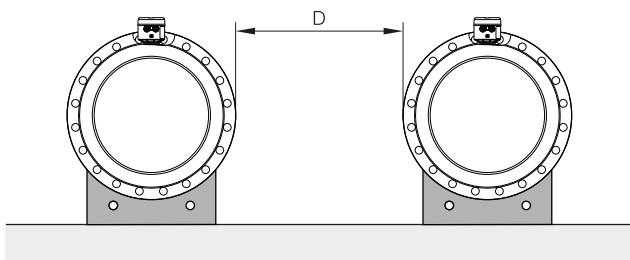

Figure 20 Minimum distance
- In order to prevent the devices from interfering with each other, a minimum distance as shown in Figure 20 must be maintained between the devices.